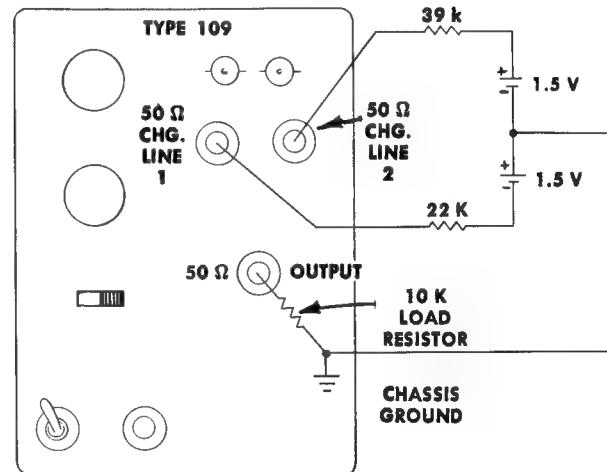

Fig. 6-2. Mercury switch tester circuit connected to the Type 109.
- (6) One mercury switch teste constructed similar to the one shown in Fig. 6-2. Use the following parts:
- Connect the leads from the mercury switch tester to the Type 109 connectors as shown in Fig. 6-2. Use care when inserting the banana plugs into the connectors as explained previously.